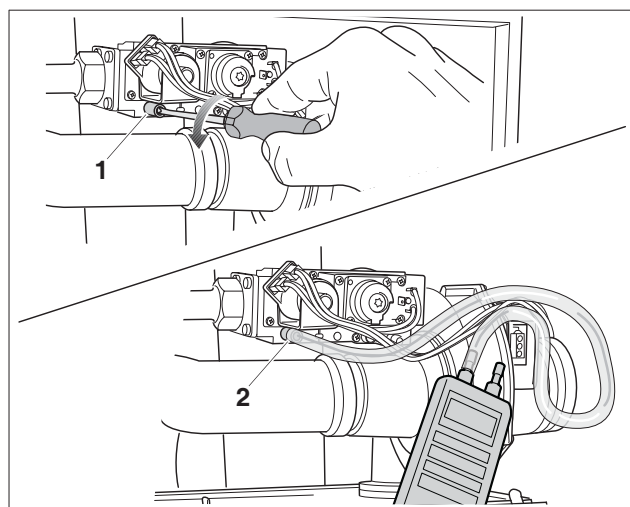

fig. 91 Measuring the gas supply pressure
- Open the screw plug on the testing nipple for the gas hook-up pressure and for purging by 2 turns (fig. 91, **item 1**).
- Connect the pressure gauge connection tube to the positive port of the testing nipple (fig. 91, **item 2**).